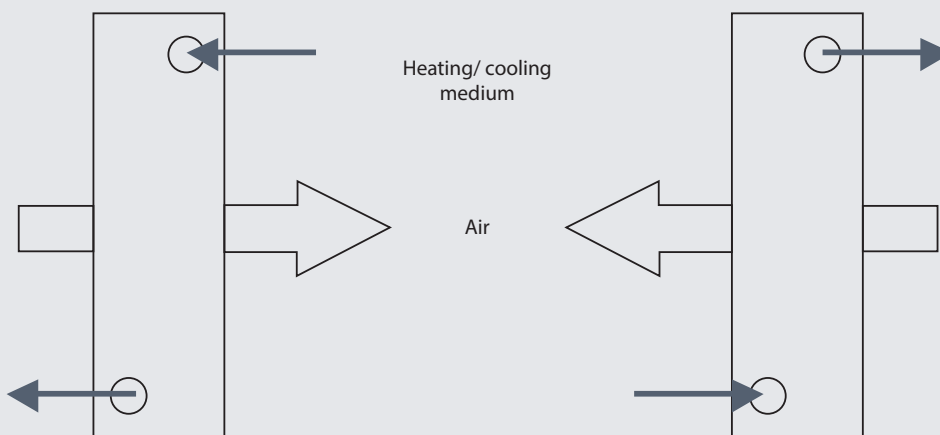

Fig. 1.7: Connecting the exchanger in back-flow
- Regarding the heating and cooling chambers, it is necessary to keep the methods of connecting the exchanger in back-flow in order to ensure the designed heat exchanger output (Figure 1.7).